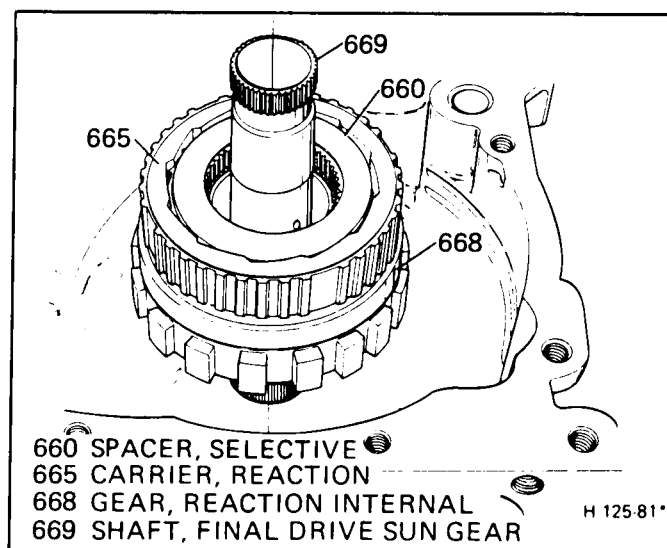

Figure 35 Removing Reaction Components
1. Sun gear (646)
2. Snap ring (644) – ring is 2.36 mm (0.092") thick
3. Lo reverse clutch housing (649) with J-28542
4. Snap ring (650)
5. Output carrier and roller clutch assemblies and lo reverse clutch plates (658 thru 668) by lifting shaft (669) (Figure 35).